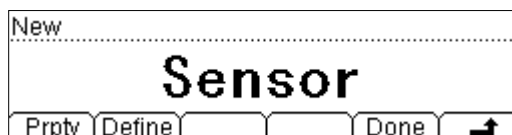

Figure 3-13 New interface
- (3) Press **Open** to start P/F testing. As shown in Figure 3-13, The test result is "PASS" as the Limit is between 0V and 1V.